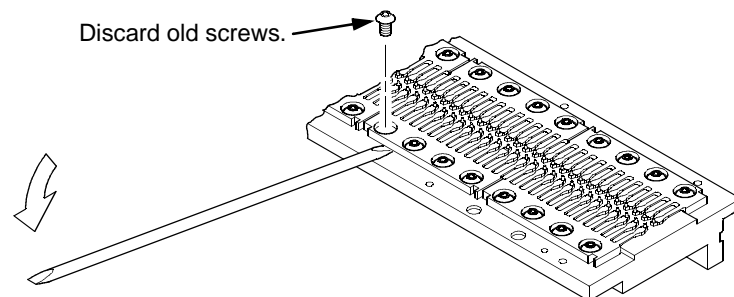

Figure 20. This figure shows how to remove a hammer spring assembly from a dual hammer bank.
5. Remove the mounting screws from the old hammer spring assembly. (See Figure 20.)
6. Handling the hammer spring assembly by the mounting base only, gently pry up the base with the stick included in the replacement spring kit. (See Figure 20.)